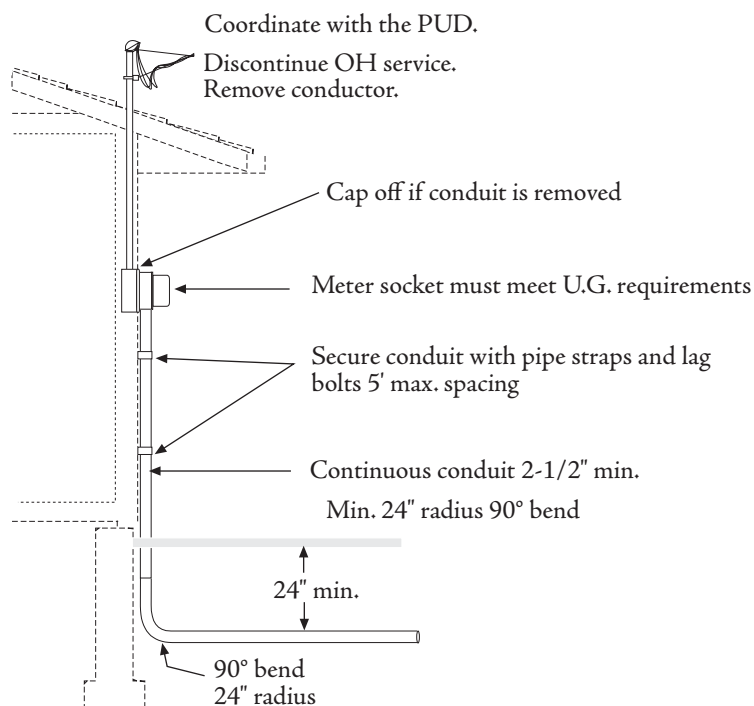

Figure 4-12
- b. Existing 200 amp surface-mounted meter bases, may be converted by installing an underground service riser conduit into the bottom of the meter base for installation of new underground service conductors. Refer to Figure 4-12.